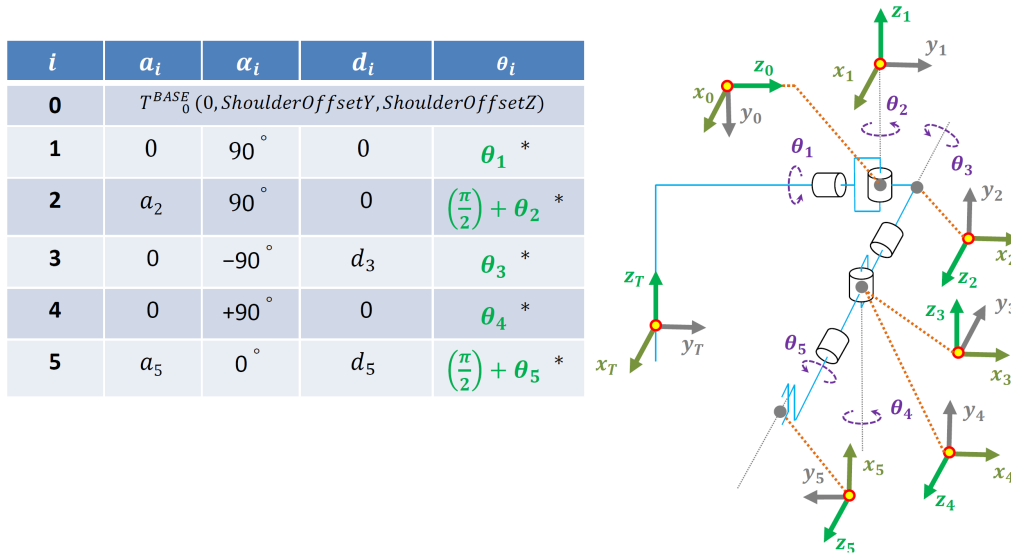

Figure 1: Right: Frame assignment for NAO left arm. Left: D-H parameters for the arm.
- Build a forward kinematics model for NAO left arm with a consideration of the frame assignment as in Fig. 1 and the D-H parameters of the arm as described in Fig. 1. Work out all transformation matrices:
- Build the inverse kinematics model for NAO left arm with a consideration of the frame assignment as in Fig. 1 and the D-H parameters of the arm as described in Fig. 1.